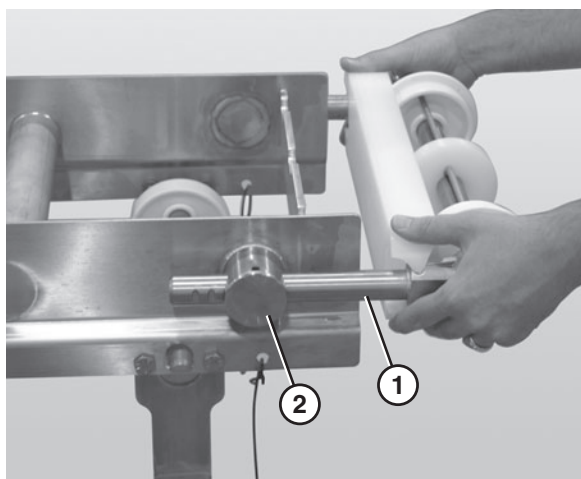

Figure 24
- Slide the bearing shafts (**Figure 24, item 1**) into the take up blocks (**Figure 24, item 2**).